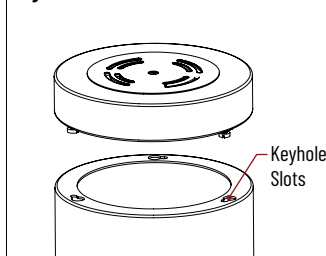

Figure 6
7. Twist the cylinder to lock the cylinder. Tighten screws inside cylinder. (Figure 6)